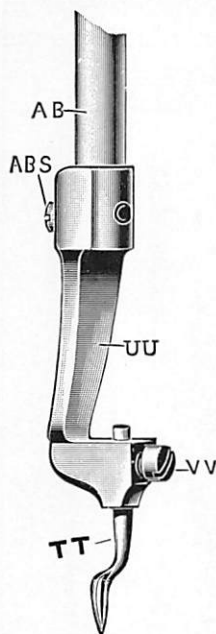

Fig. 18
Should it be necessary to remove piercer (TT, see Fig. 18) it is preferable to detach holder (UU) at screw (ABS).